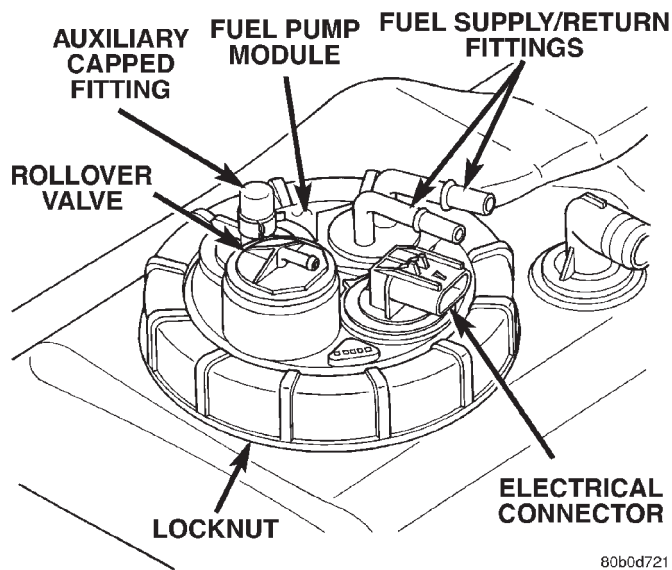

Fig. 21 Rollover Valve Location—Diesel Powered
(1) **Diesel Powered Engine:** One rollover valve is used. The valve is located on top of fuel tank module (Fig. 21) and may be serviced separately.